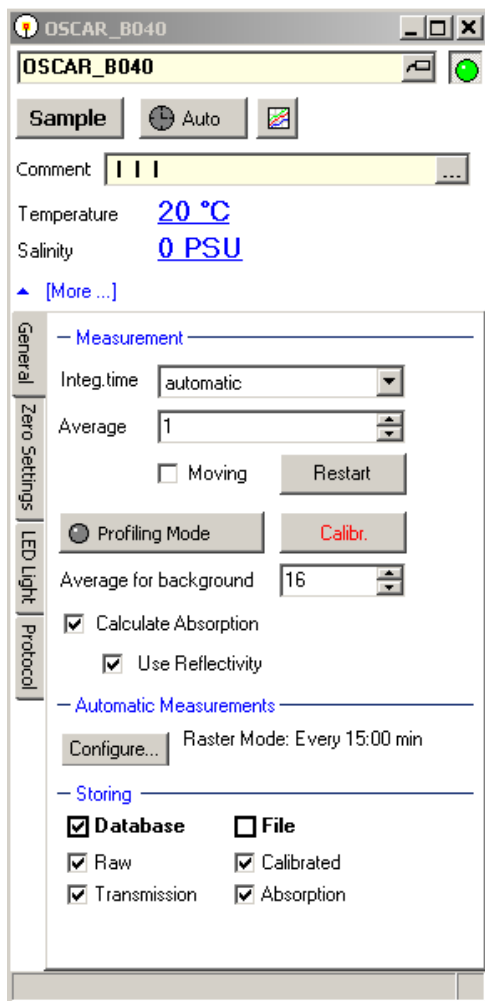
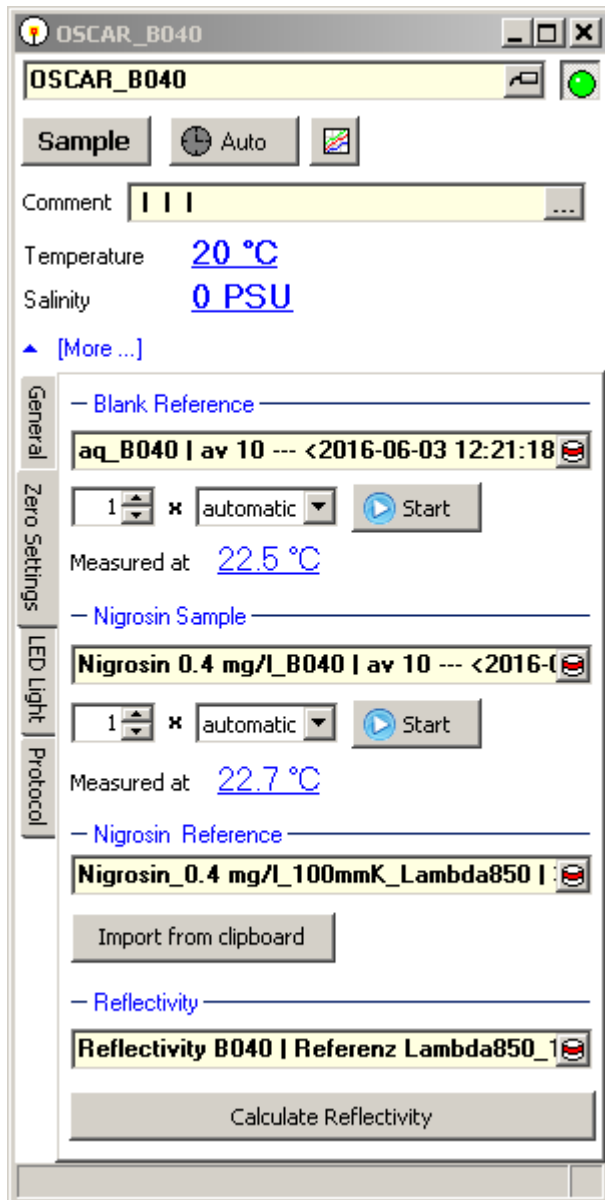

Fig. 29. OSCAR control window with general settings menu
Fig. 30. OSCAR control window for the reflectivity calculation
- Press the tab [Zero Settings] (Fig. 29): In this page spectra can be selected from the database for the reflectivity calculation (see Fig. 30).